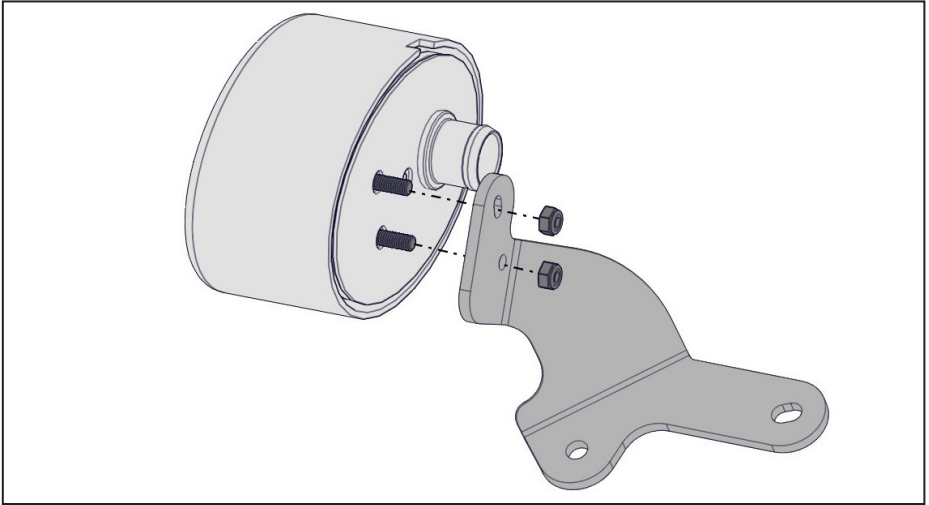

Figure 81 — Air filter and bracket
- Mount the VMAC air filter assembly to the supplied bracket using the supplied M6 nylon lock nuts (Figure 81).